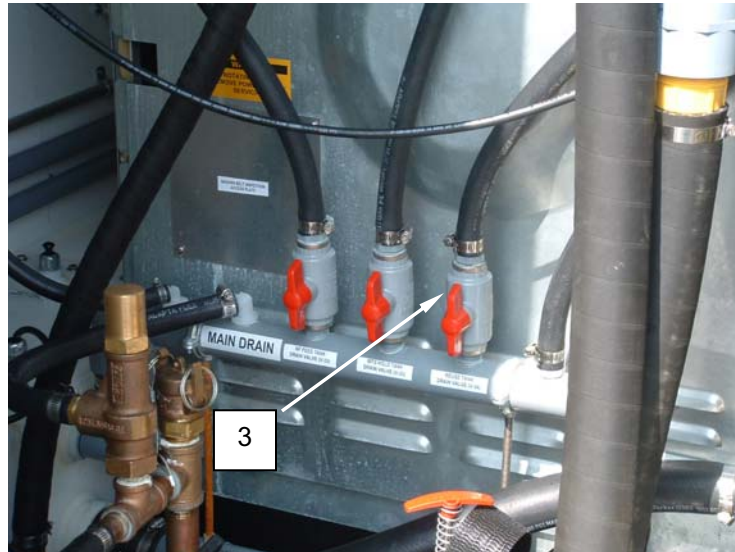

Figure 12. Sodium Bisulfite Preservation Procedure.
12. Open Reuse Tank drain V-34 (Figure 12, Item 3) on the drain manifold, and allow the Reuse Tank to drain completely.
13. Close Reuse Tank drain V-34 (Figure 12, Item 3) when the tank has completely drained.